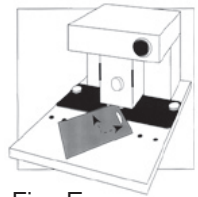

Fig. 5
- 3 - Position card against the angled guide and push the operating switch button or optional foot switch. [Figure 5]